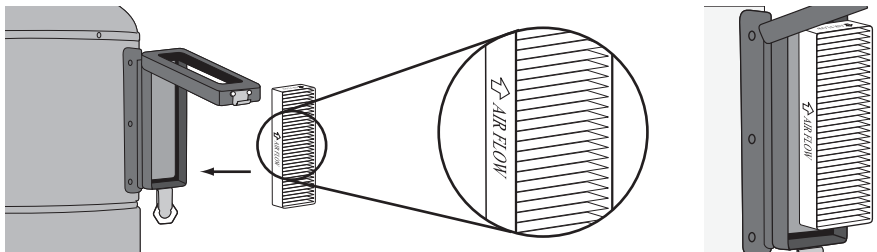

figure 14
3. Insert the new filter. When doing so, please ensure that the arrow printed on the filter itself points outwards (**figure 14**).